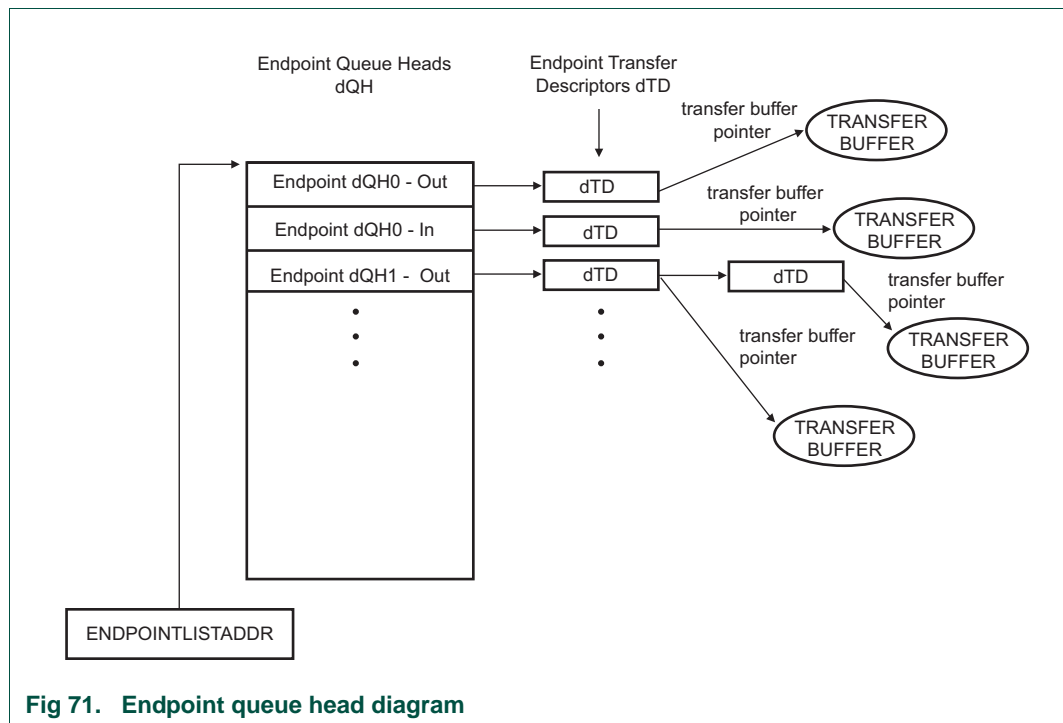

Fig 71. Endpoint queue head diagram
The device queue head (dQH) points to the linked list of transfer tasks, each depicted by the device Transfer Descriptor (dTD). An area of memory pointed to by ENDPOINTLISTADDR contains a group of all dQH's in a sequential list as shown in Figure 71. The even elements in the list of dQH's are used for receive endpoints (OUT) and the odd elements are used for transmit endpoints (IN). Device transfer descriptors are linked head to tail starting at the queue head and ending at a terminate bit. Once the dTD has been retired, it will no longer be part of the linked list from the queue head. Therefore, software is required to track all transfer descriptors since pointers will no longer exist within the queue head once the dTD is retired (see Section 25.10.11.1).